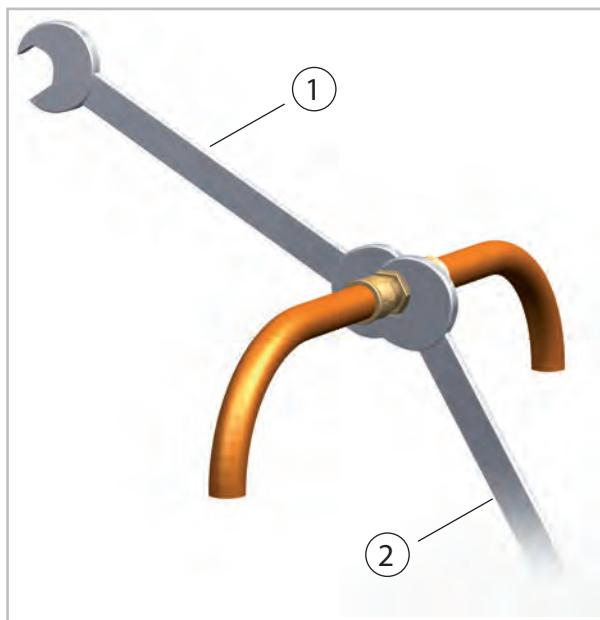

Fig. 40: Tightening the fitting
11. Then tighten the fittings with 2 appropriately-sized open-ended spanners. Use one spanner to counter the force when tightening the fitting (Fig. 40).